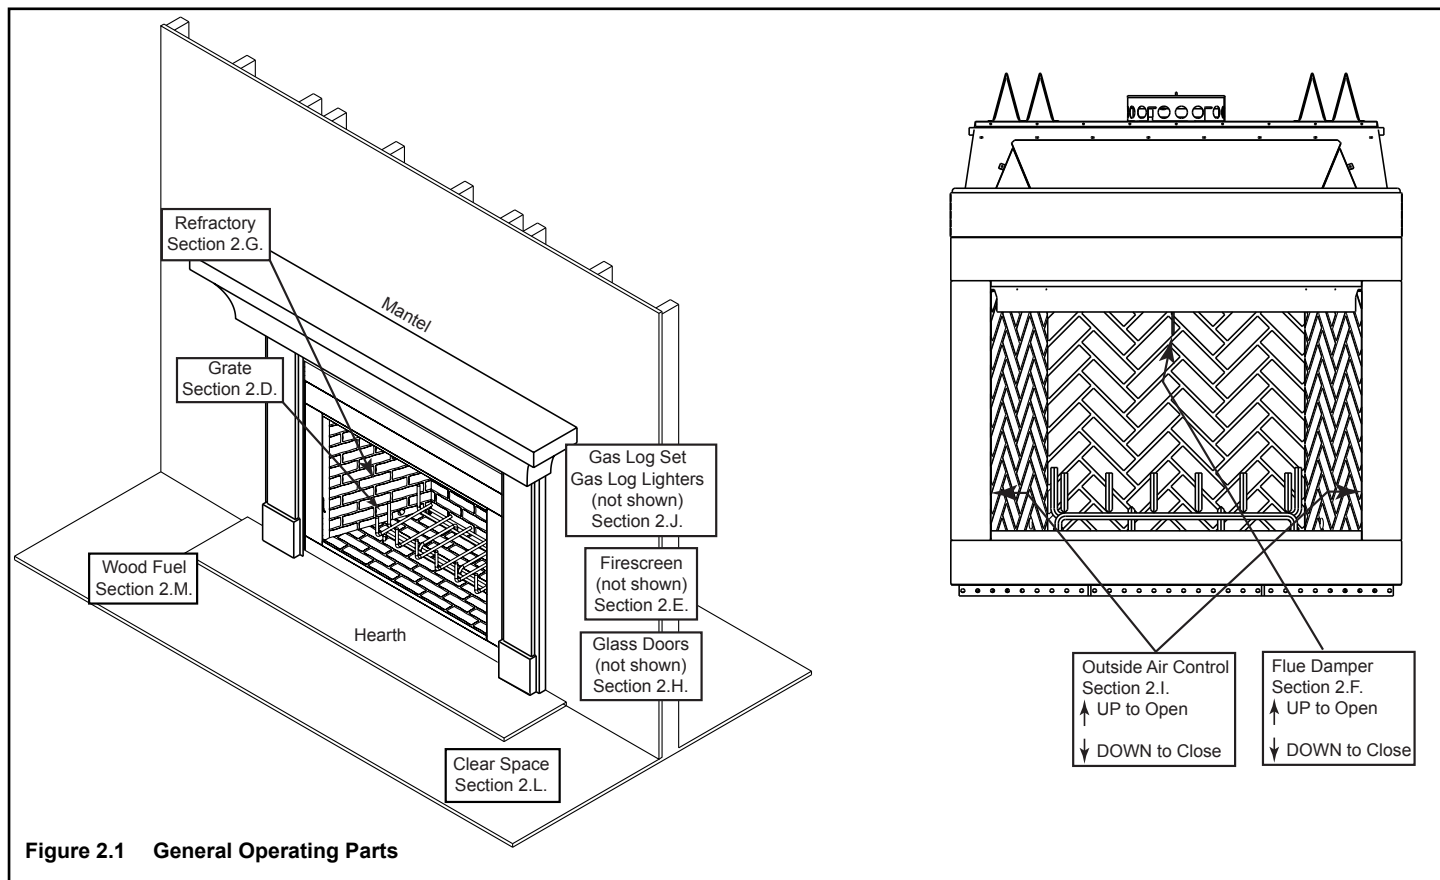

Figure 2.1 General Operating Parts
- Refer to Figure 2.1 for location of control.
The outside air kit supplies some combustion air for your fireplace. It may help reduce the effects of negative air pressure. (See Figure 2.1 for location of controls.)
- Refer to Figure 2.1 for location of control